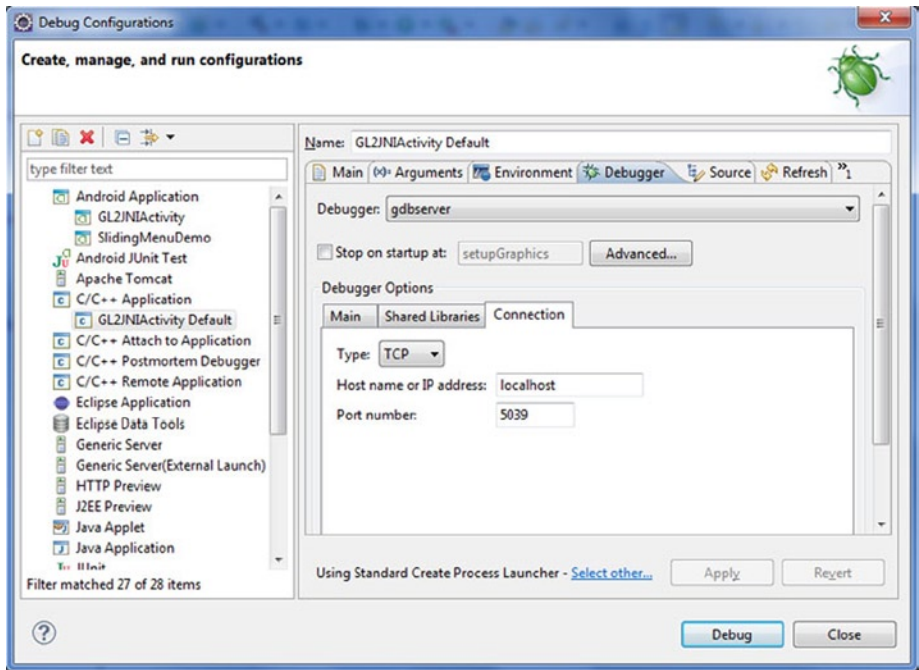

Figure 8-24. Connection Settings on the Debugger Setting Panel
10. Go to the Connection tab (see Figure 8-24) and set Type to TCP. Keep the default values for hostname or IP address and port number (localhost, 5039).